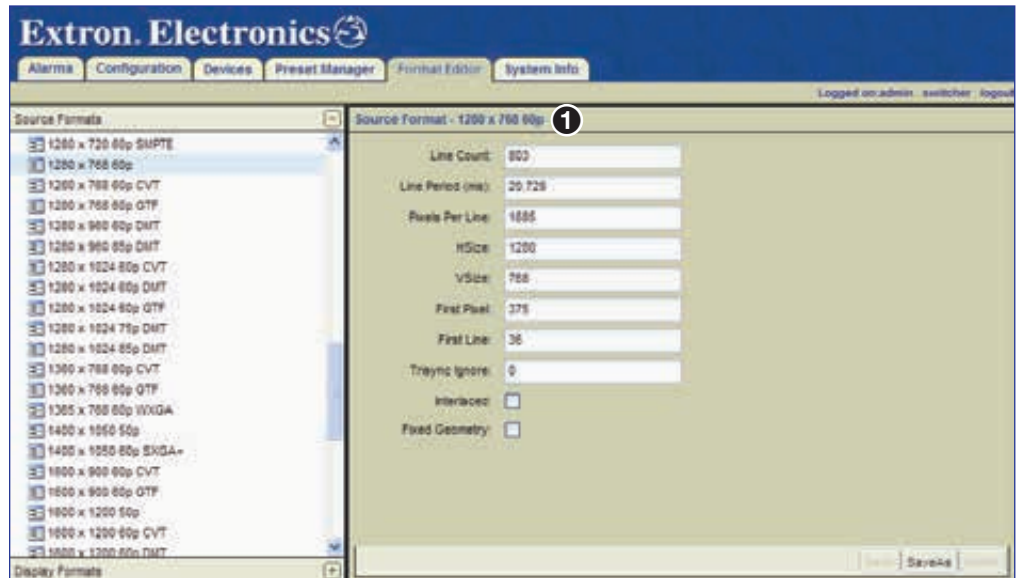

Figure 129. New Source Format Saved
19. The name of the new source is listed above the source format properties (see figure 129, ❶).